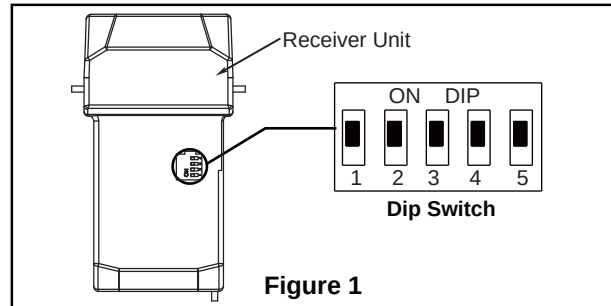

Figure 1
- ☐ 1. Remove one of the two shoulder screws in the hanger bracket. Loosen the second shoulder screw without fully removing it. Assemble canopy by rotating key slot in canopy over shoulder screw in hanger bracket. Tighten shoulder screw. Fully assemble and tighten second shoulder screw that was previously removed. (Figure 1)